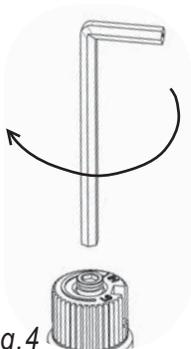

Fig. 4
- 15) Using the Allen wrench as shown in Fig. 4, rotate the screw clockwise until snug, do not over-tighten.